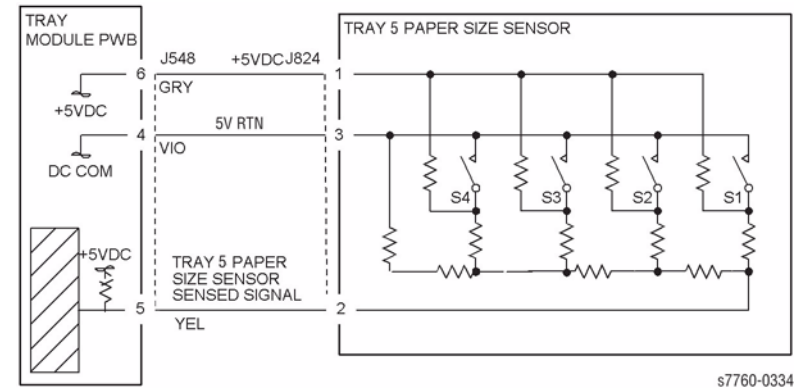

Figure 1 007-273 Tray 5 Paper Size Sensor (3TM)
Check the wires from P/J548 to P/J824 (Figure 1) for damage. Repair or replace as required.
- Ensure that the connectors shown in the circuit diagram (Figure 1) are securely connected and that the wires are not damaged.